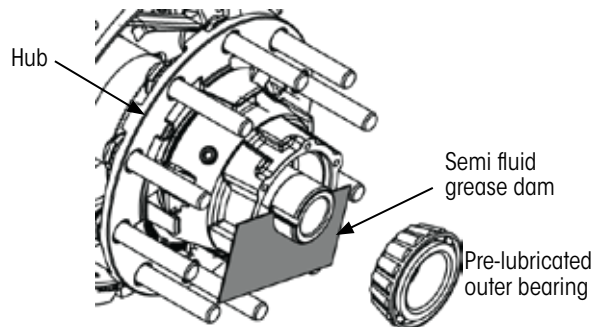

Figure 14: Semi fluid grease dam application
3. With the hub supported in position as shown in Figure 14, **place and hold** the semi fluid grease dam so it covers the lower half the hub opening.
6. **Place** grease coated outer bearing over the spindle and against the semi fluid grease dam (Figure 14).